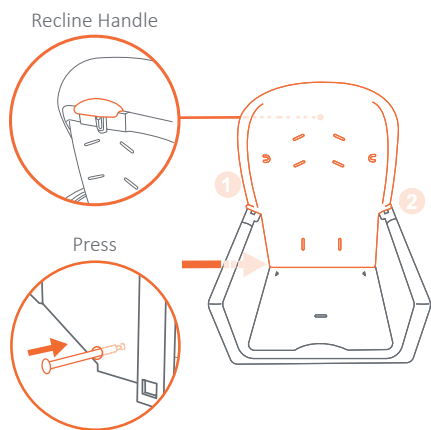

Fig. 5c
• **Press Pins In:** Ensure the seat parts latched together in the upright position. Insert the pin all the way into each side of the seat base and test the recline feature (Fig. 5c).